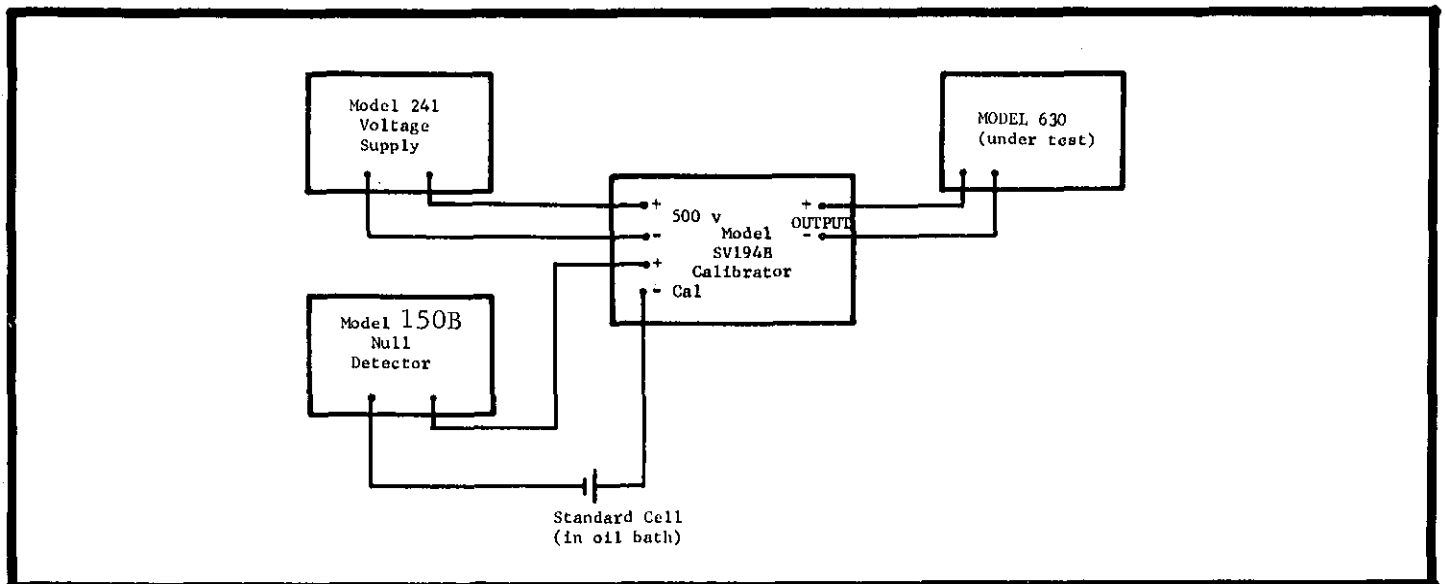

FIGURE 11. Block Diagram for Model 630 Range Calibration. Fully guard the entire system to prevent leakage errors. See Table 5 for recommended equipment.
1. Set up the system shown in Figure 11. The standard cell should be certified to 10 ppm. Use the dial correction factors found for each output. If the system accuracy was properly determined, the input voltage to the Model 630 should be correct to 20 ppm.